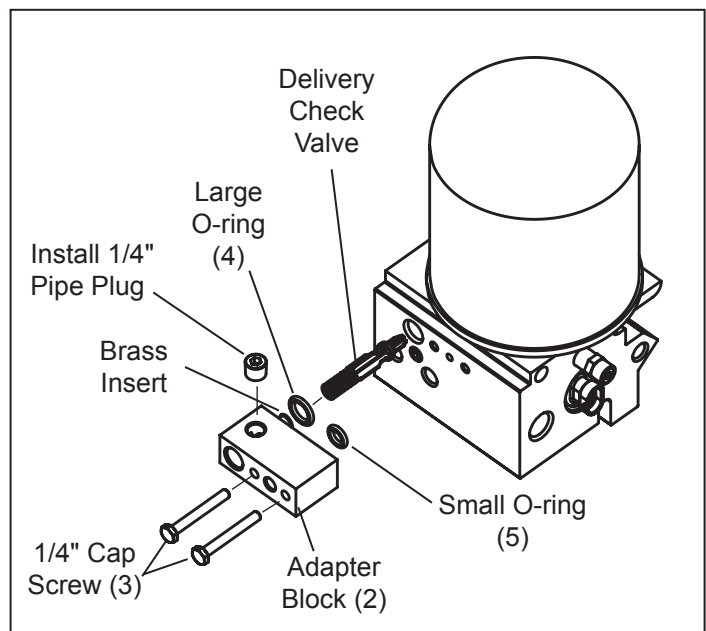

Figure 4 Existing AD-IS® air dryer with adapter assembly
10. Install the two o-rings on the governor adapter block(2) in the location shown in figure 4.
11. Ensure the delivery check valve is in place in the air dryer. See figure 4. Install the governor adapter block(2), with the o-rings, onto the air dryer body in place of the governor. Align the brass insert with the governor adapter port. Secure using the two 1/4" cap screws (3). Install a 1/4" NPT pipe plug (Bendix piece number 230576 or equivalent) in the top port of the air dryer adapter.
12. Install the new air dryer cartridge(6) on the existing air dryer. Replacement of the air dryer cartridge is required for the new system to operate properly.